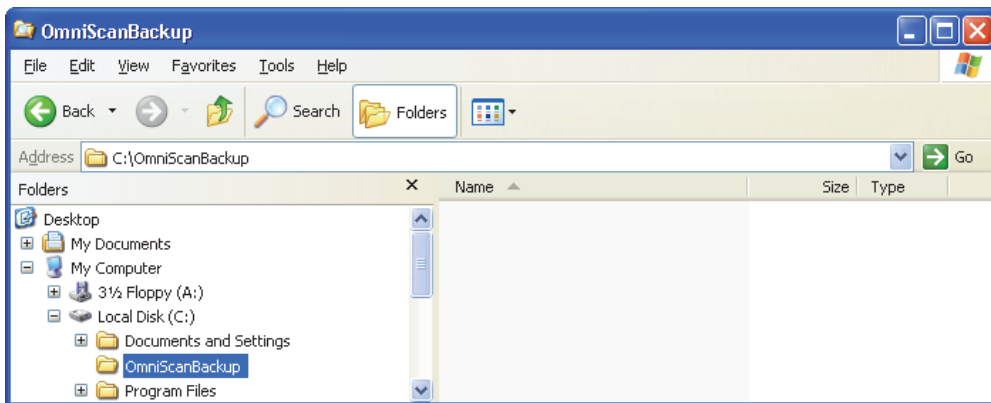

Figure 4-24 Creating a backup folder on your computer
- Using Windows Explorer, create a backup folder on your computer (for example: C:\OmniScanBackup, as shown in Figure 4-24 on page 87).